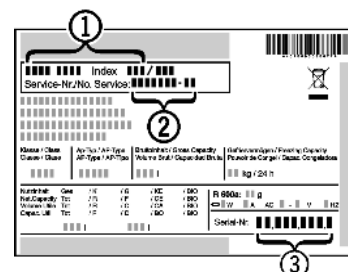

Fig. 12
- Read the appliance designation Fig. 12 (1), service No. Fig. 12 (2) and serial No. Fig. 12 (3) off the type plate located inside the appliance on the left-hand side.
- Notify the customer service, specifying the fault, appliance designation Fig. 12 (1), service No. Fig. 12 (2) and serial No. Fig. 12 (3).